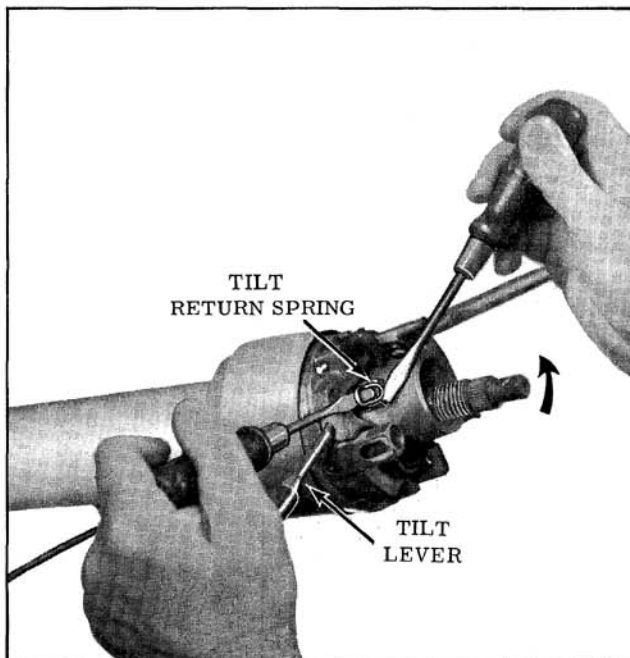

Fig. 8-98 Removing Tilt Return Springs
8. Remove pivot pins. (Fig. 8-98)